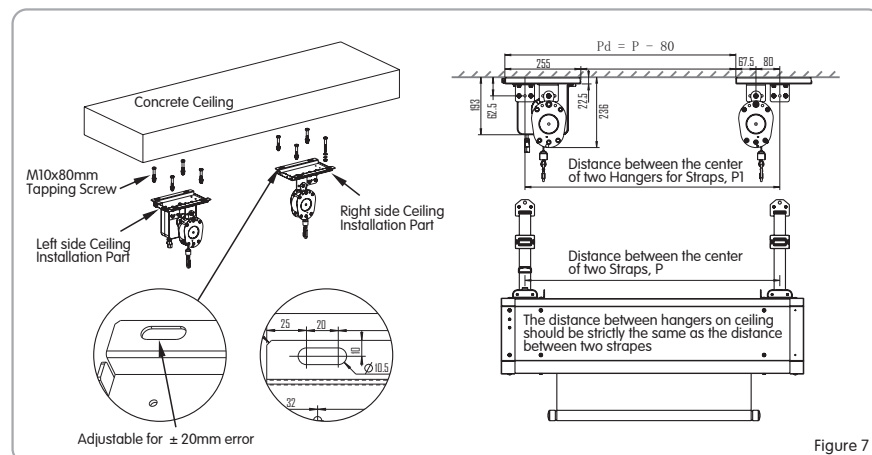

Figure 7
6. Measure the distance between the center of two Straps, mark as P, correct to mm. Ensure the distance P1 between the center of two Hangers for Straps is exactly the same as P, only ± 20 mm error is adjustable, after that use Tapping Screws to install the 2pcs all set Ceiling Installation Parts onto concrete ceiling. Figure 7.